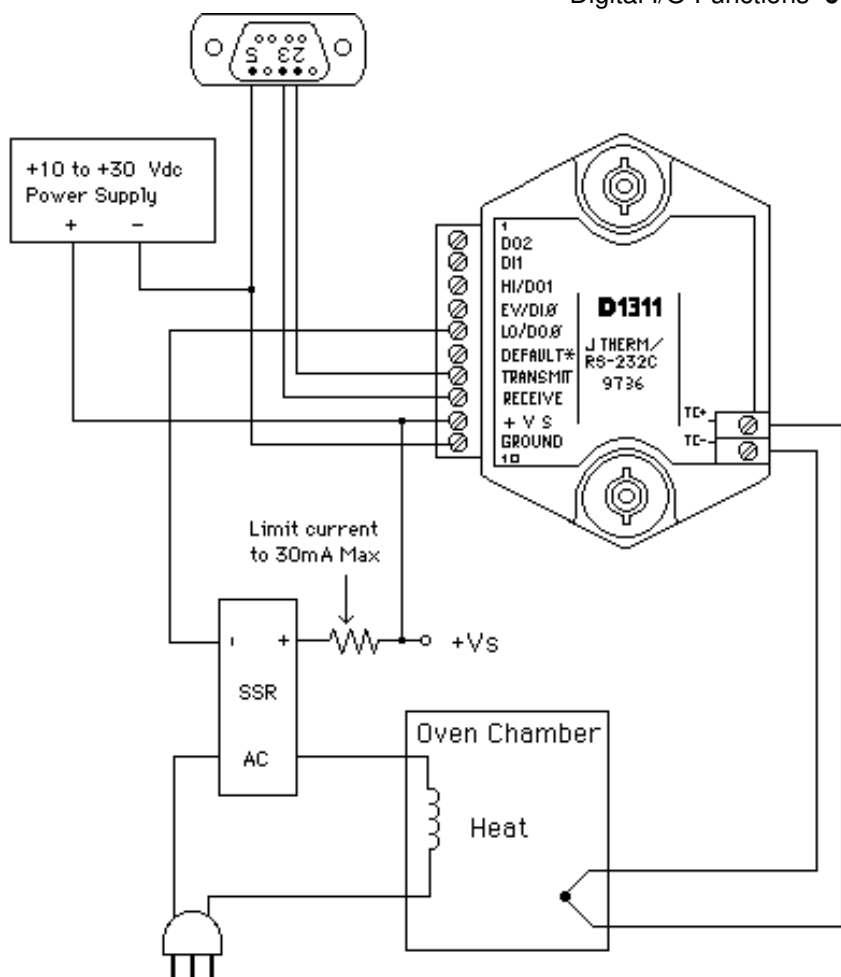

Figure 6.5 On-Off Controller
The simplest controller connection is to use a momentary alarm output to control the process. A typical application would have a temperature input module controlling a heater, as shown in Figure 6.5. To maintain a constant temperature, set the low limit to the setpoint desired and specify the alarm output to be momentary. Use the LO alarm output to control the heater. If the temperature measurement exceeds the low limit, the heater will be turned off. When the temperature goes below the limit, the LO alarm output goes on, turning on the heater. The negative feedback action of the control output will keep the temperature at the desired value. The high limit is still available to activate an alarm or shut down the system if the temperature goes out of limit.
A typical example of a controller with hysteresis is illustrated in Figure 6.5. A J-Thermocouple input module such as a D1311 maybe used to regulate the temperature of an oven. The thermocouple is used to sense the oven temperature. The LO alarm output controls a solid state relay (SSR) which in turn controls the oven heater. The Enable Alarms (EA) command must be used to activate the alarm outputs. In this case the desired regulated temperature is 100°C. The Lo alarm is set to 95°C in the latching mode with the LO command. The HI alarm command is used to set the upper limit to 105°C in the momentary mode. The total hysteresis is the difference between the two alarm values, or 10°C. In the steady state condition, the oven temperature will oscillate between 95°C and 100°C (ideally).